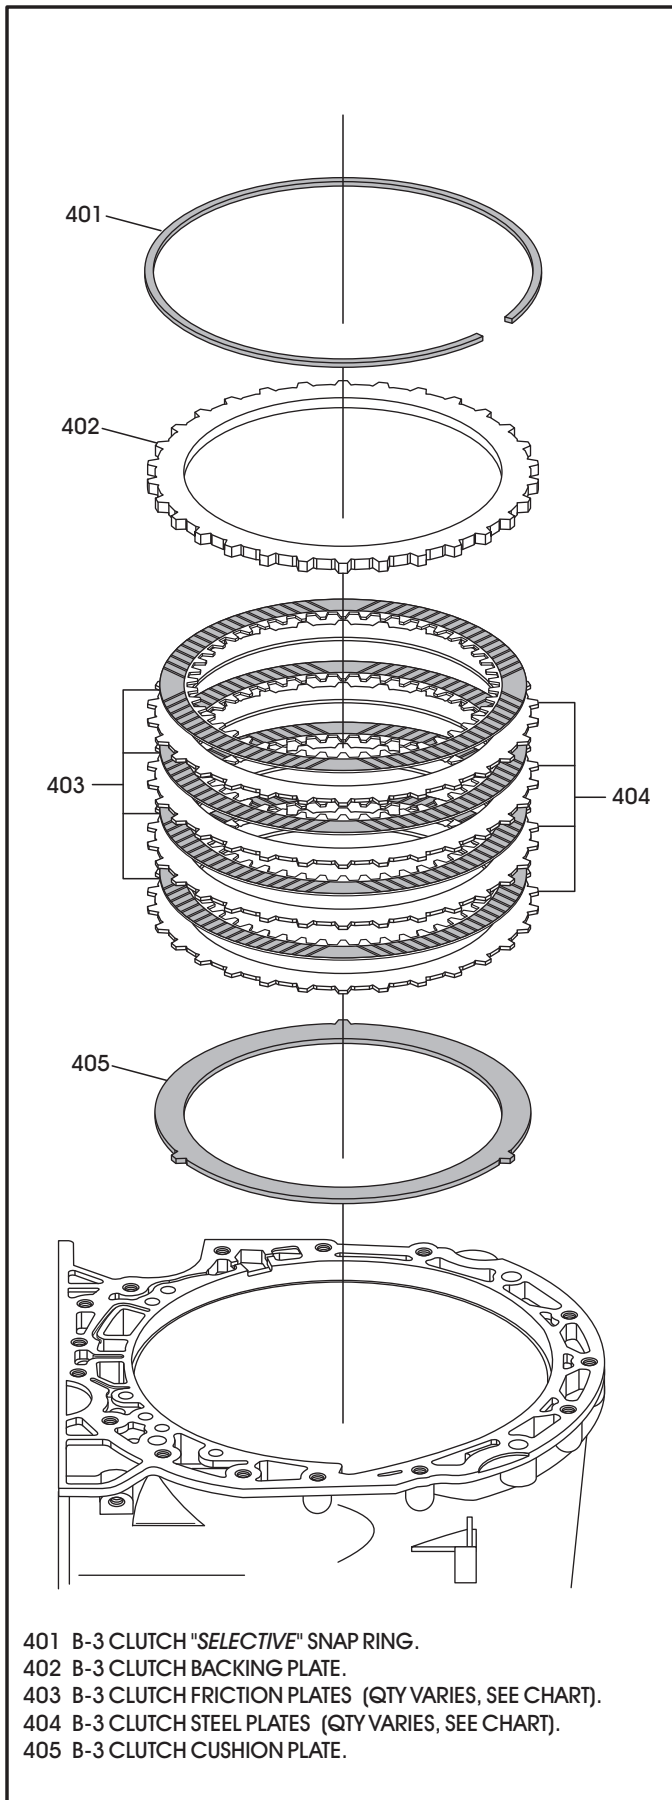

Figure 53
31. Remove the B-3 *selective* snap ring, as shown in Figure 53.
32. Remove complete B-3 clutch pack, as shown in Figure 53.